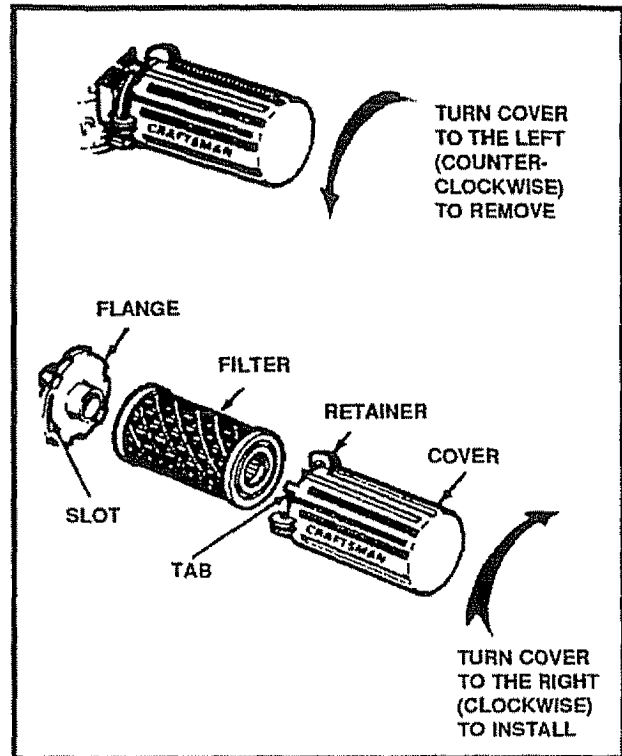

FIG. 12
- Push the cover firmly against the flange and turn it to the right (clockwise) as far as it will go (See Fig. 12). Be sure the retainers are locked around the flange.